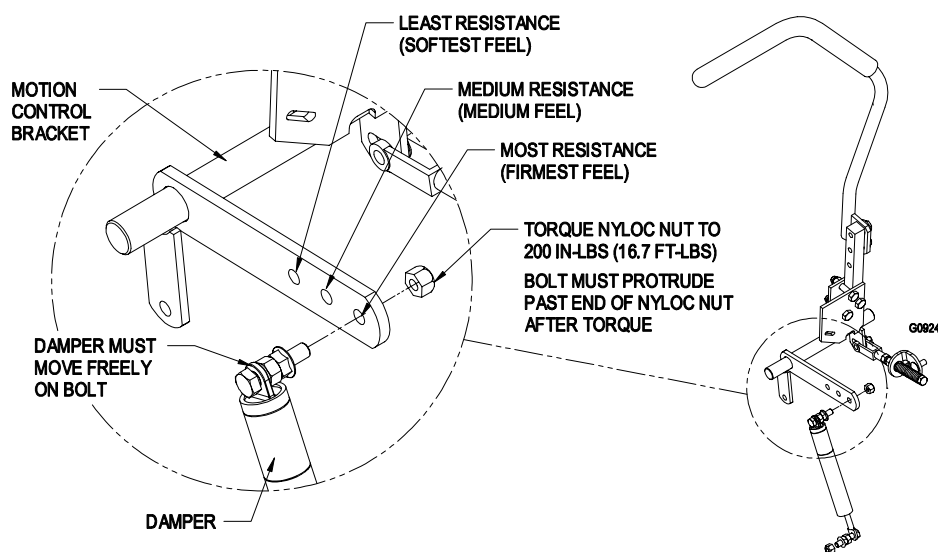

FIGURE 13
- h) Bring the RH motion control lever into the neutral position. Adjust RH pump control rod length by rotating the double nuts on the rod in the appropriate direction until the wheels slightly creep in reverse. (See Figure 13) Move the motion control lever to the reverse position and while applying slight pressure to the lever allow the reverse indicator spring to bring the levers back to neutral. The wheel must stop turning or slightly creep in reverse.